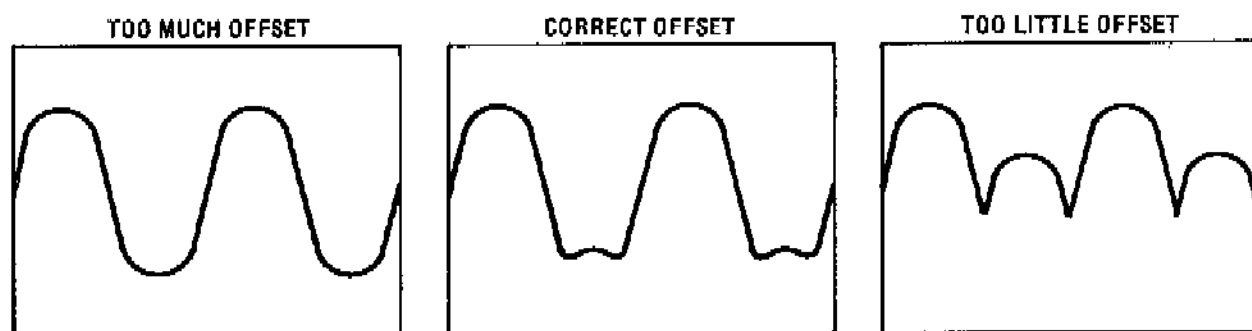

Figure 5-7. YTO Loop Offset Adjustment Waveforms
8. Set the YTO loop offset adjustment OFST A3A9A4R53 so the sinusoidal waveform just begins to fold over. Refer to Figure 5-7.